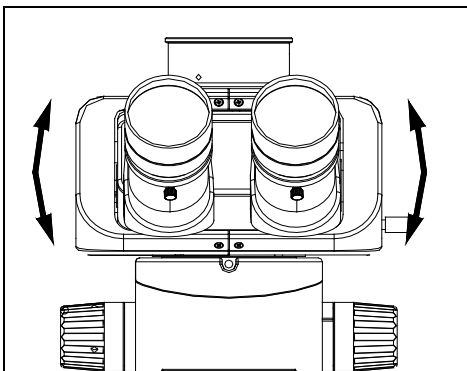

Fig.17
- Hold the left and right prism boxes and rotate them according to the arrowhead pointed in Fig. 17, until it's comfortable to view. Adjustment range: 50~76mm.